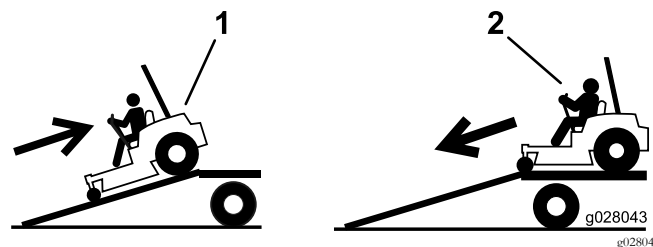

Figure 38
- Securely fasten the machine to the trailer or truck with straps, chains, cable, or ropes. Only use the four designated tie-down locations on the mower—two on the left side and two on the right (see Figure 38). Use these locations even when transporting the mower with an attached accessory. Using non-designated locations may cause damage to the mower and/or attachment.
ramp that is wider than the machine for this procedure. Back up ramps and drive forward down ramps (Figure 38).